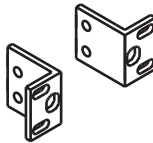

Fig.5
2. Receiver Rack-Mount Kits, Fig. 5.